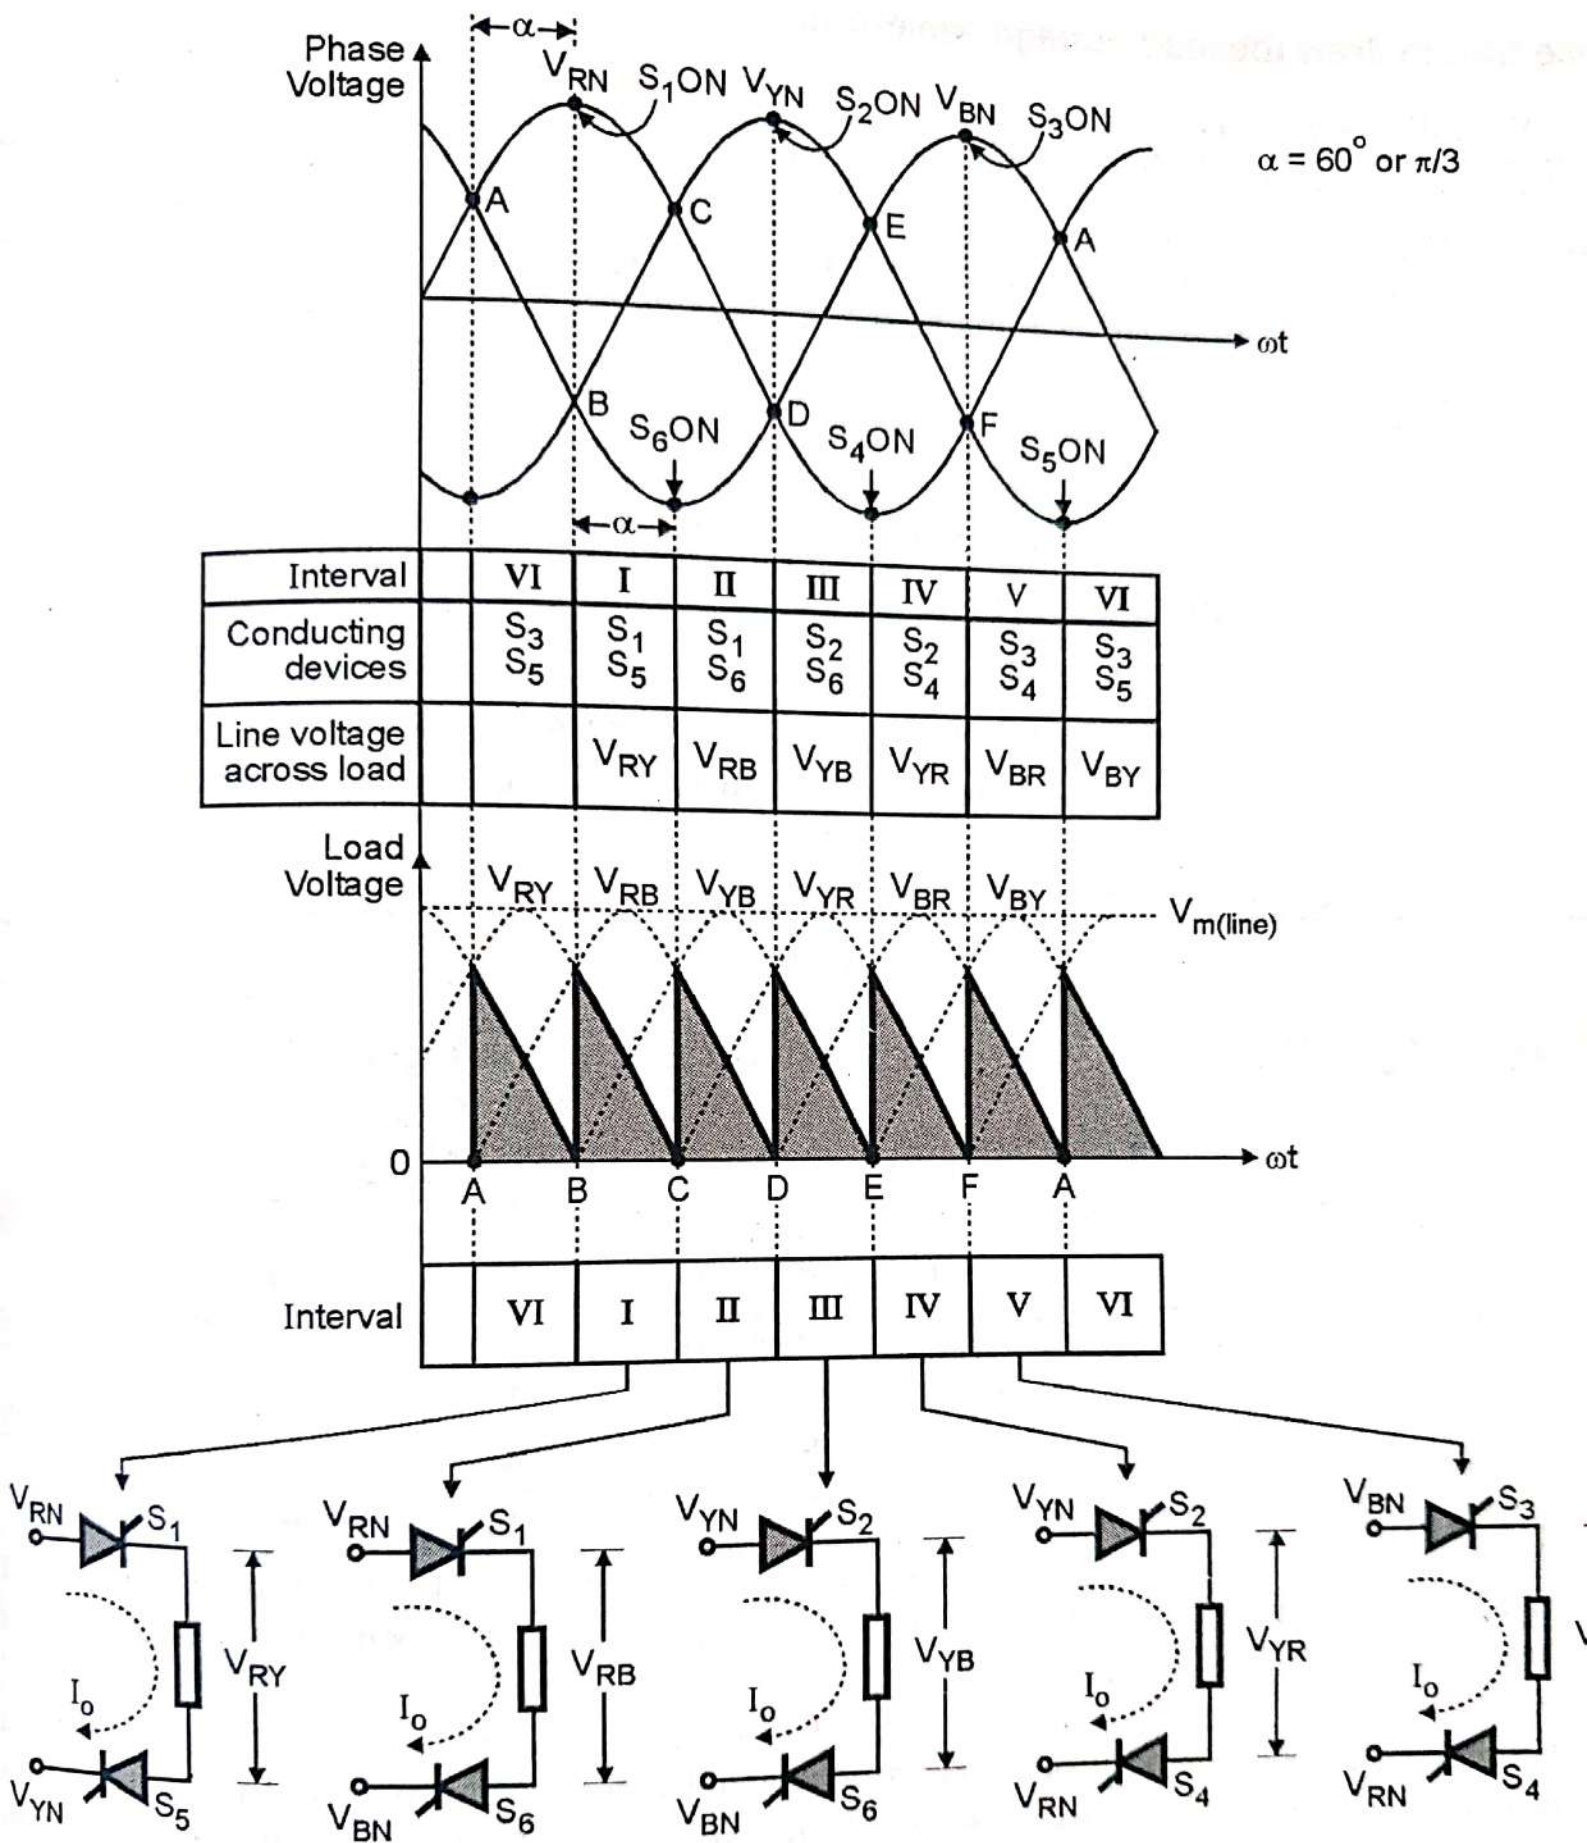
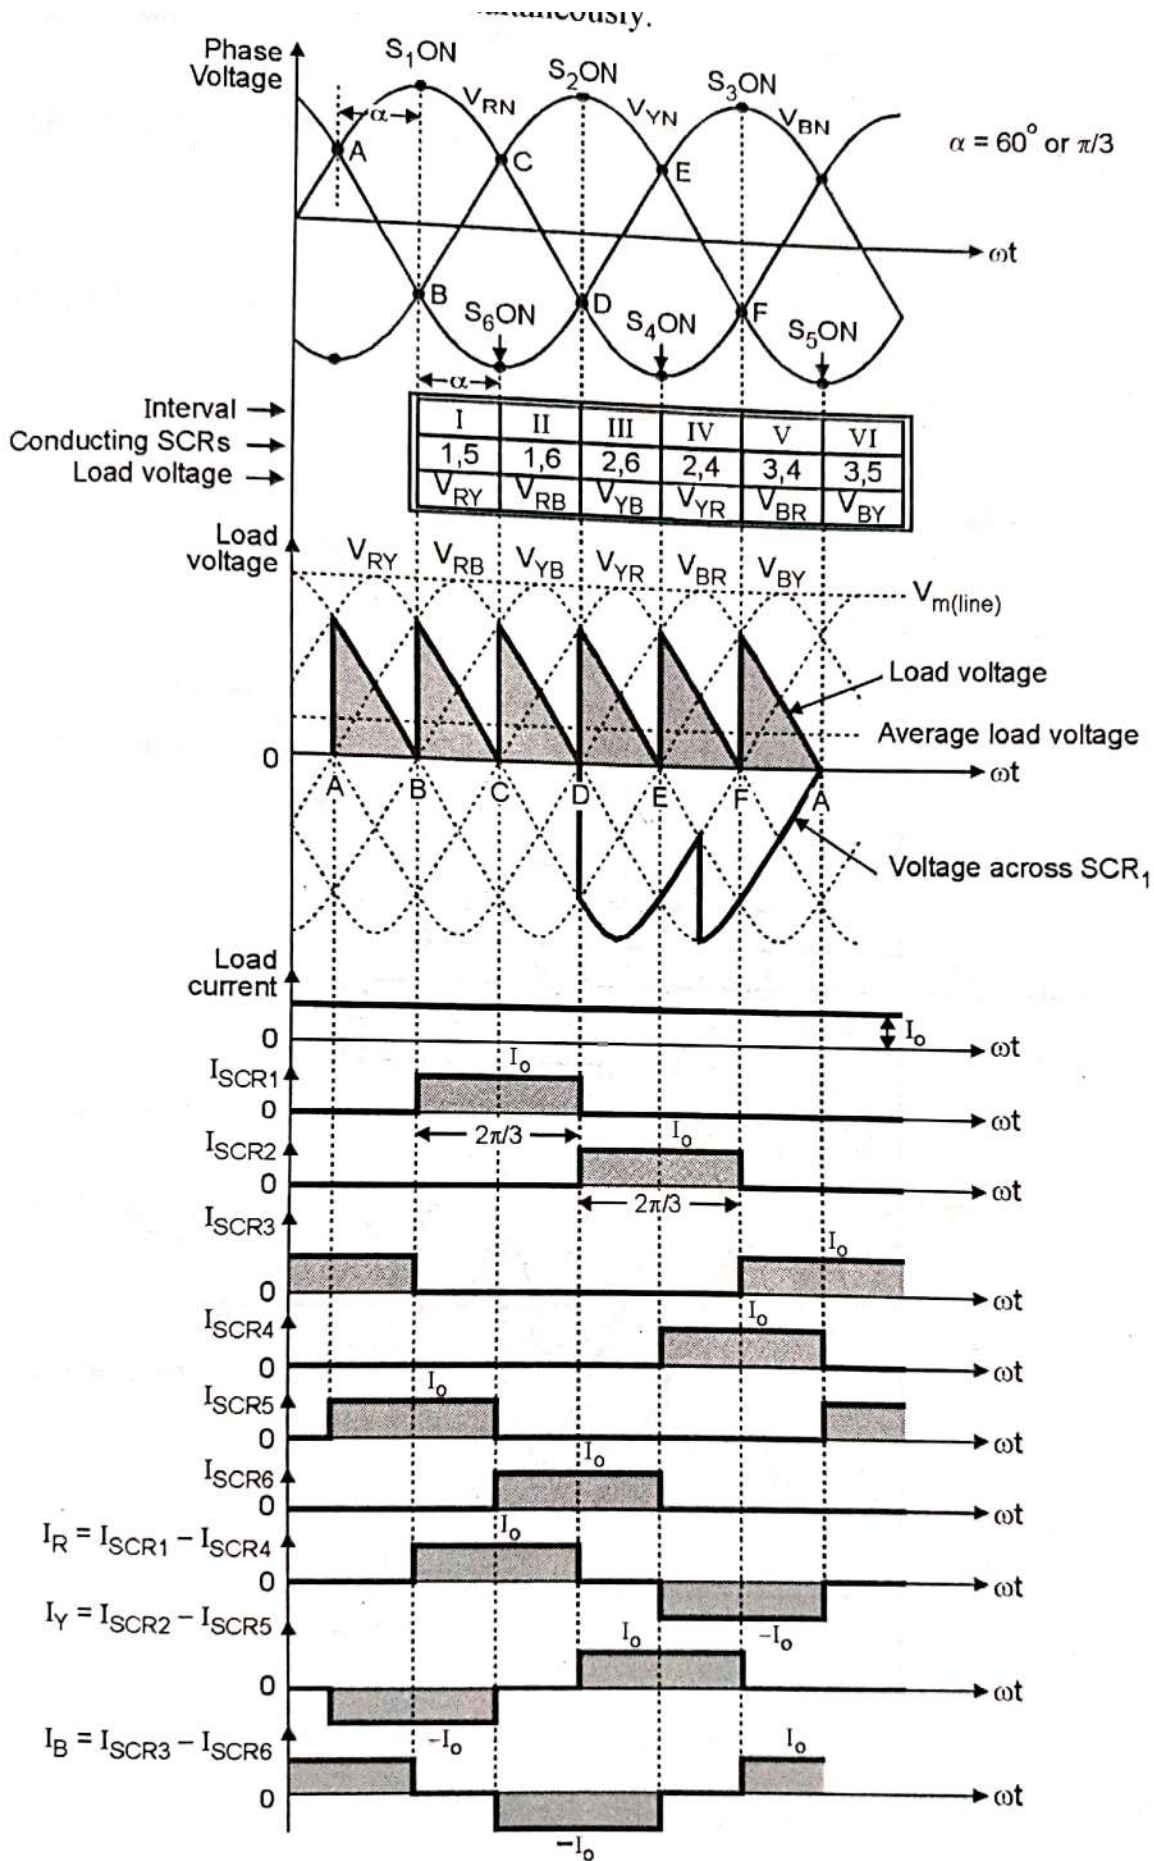

Fig. 8.7.2 : Load voltage waveform and equivalent circuits (Rectification mode)
Fig. 8.7.3 : Voltage and current waveforms for full converter in rectifier mode
- The load voltage waveform for a full converter with inductive load is as shown in Fig. 8.7.2.
- The load voltage waveform of Fig. 8.7.2 are drawn with the assumption that the load current is ripple free and continuous equal to I_o .
- The load voltage waveforms and the equivalent circuits are as shown in Fig. 8.7.2 and the other waveforms are as shown in Fig. 8.7.3.